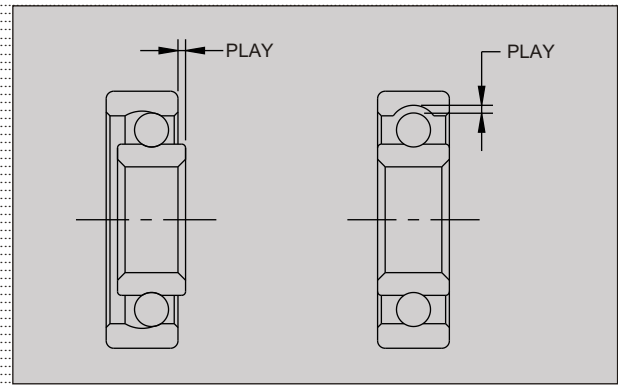

Fig. 6.4
- Inspect wheel bearings inner race for play by hand while fixing it in the hub complete front wheel. (Fig. 6.4)